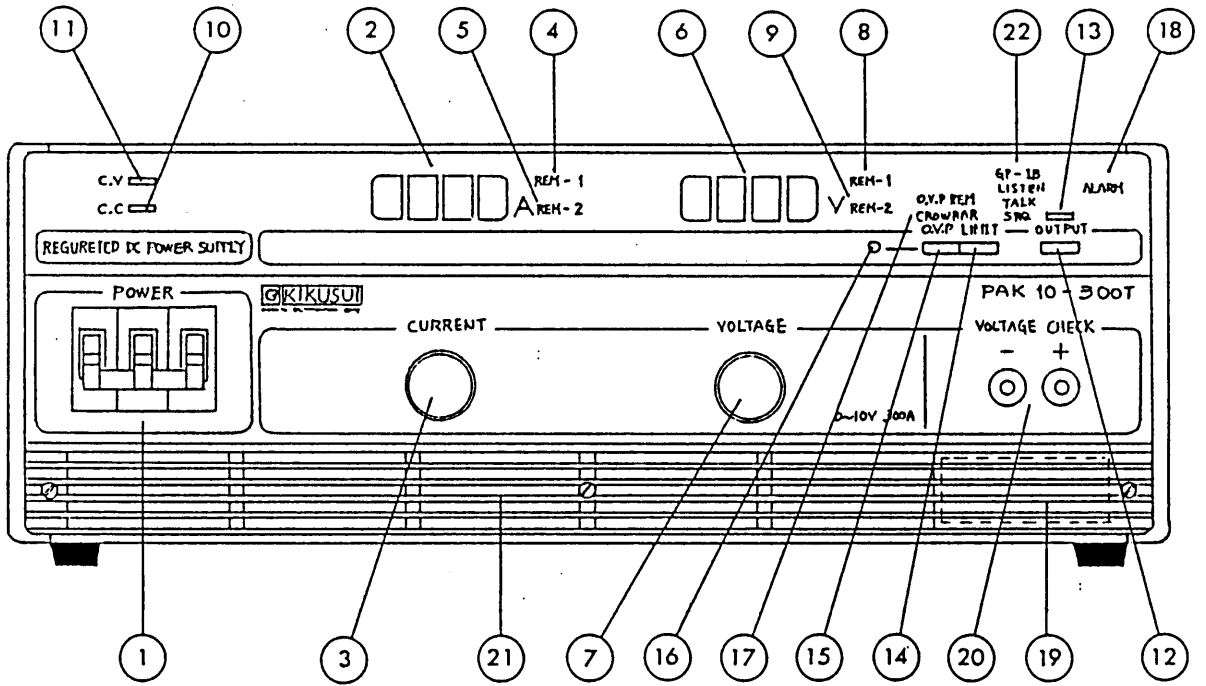

Figure 2-17
The VOLTAGE CHECK (output current check) terminal on the front panel delivers a voltage signal which represents the output voltage (voltage between sensing terminals ⑤ and ⑥). The voltage relationship between the actual output voltage and the monitor signal voltage is 1V:1V. (Refer to figure 2-17 ㉑).